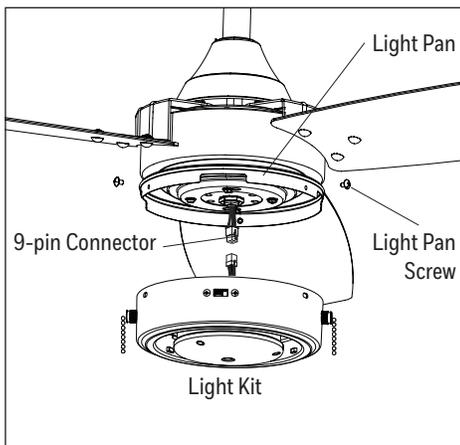

Figure 5.7
7. Remove the three light pan screws preassembled to the light pan. Then, connect the 9-pin connector from fan to the 9-pin connector from the light kit. Secure the light kit with the previously removed light pan screws (Figure 5.7).